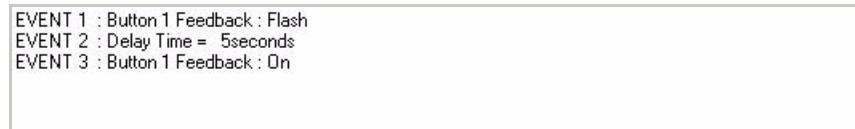

FIG. 29 Event Script window - Event 2 = Delay Time 5 seconds, Event 3 = Feedback On
5. Set the *Button Feedback* action to **On**, and add it to the script as **Event 3** (FIG. 29).